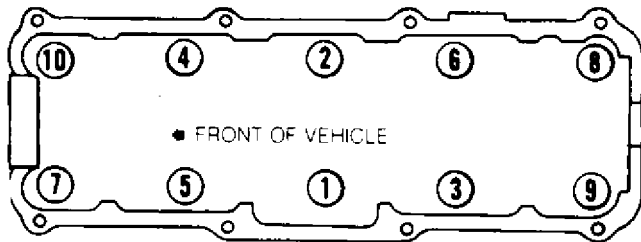

Fig. 2: Cylinder Head Tightening Sequence
2) Unbolt exhaust pipe support (if equipped). Disconnect exhaust pipe from manifold. Disconnect coolant hoses from head and remove any other hoses which may interfere with head removal. Remove valve cover. Loosen head bolts in reverse order of tightening sequence. See Fig. 2. Lift off head.
3) Lower head carefully onto gasket. Use Guide Pins (3070) to keep gasket and head aligned with block. Tighten cylinder head bolts in sequence in 3 stages. See Fig. 2. Tighten 12-point bolts to 29 ft. lbs. (40 N.m) in first step. Tighten to 43 ft. lbs. (60 N.m) in second step. On third step, turn bolt 180° (1/2 turn) in 1 movement (two 90° movements are acceptable).